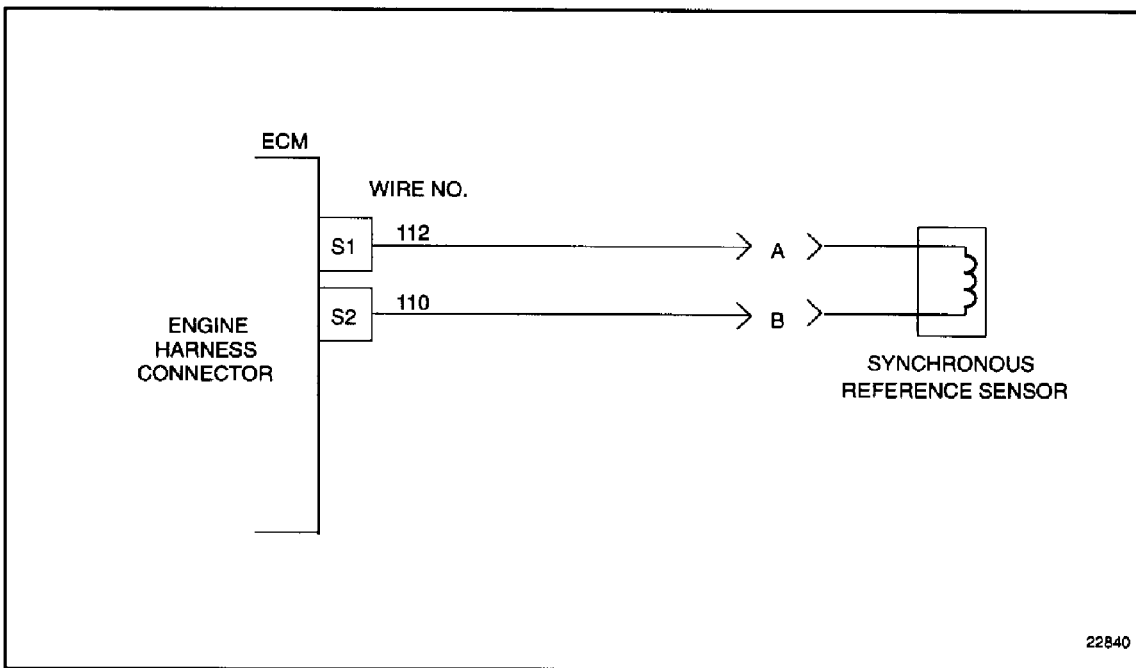

Figure 42-5 Engine Harness Connector to Synchronous Sensor
1. Check terminals at the ECM engine harness connectors (both the ECM and harness side) for damage: bent, corroded, and unseated pins or sockets. See Figure 42-5.